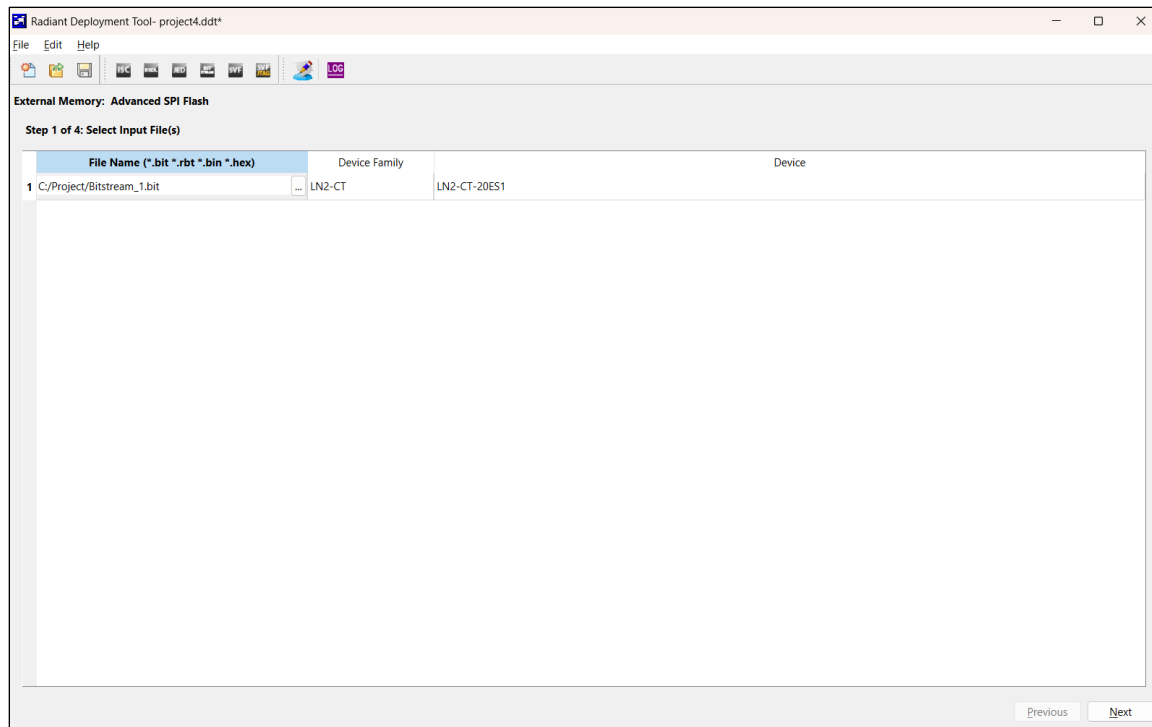

Figure 7.15. Select Input File(s) Window
Step 1 of 4: Select Input File(s) window (Figure 7.15)